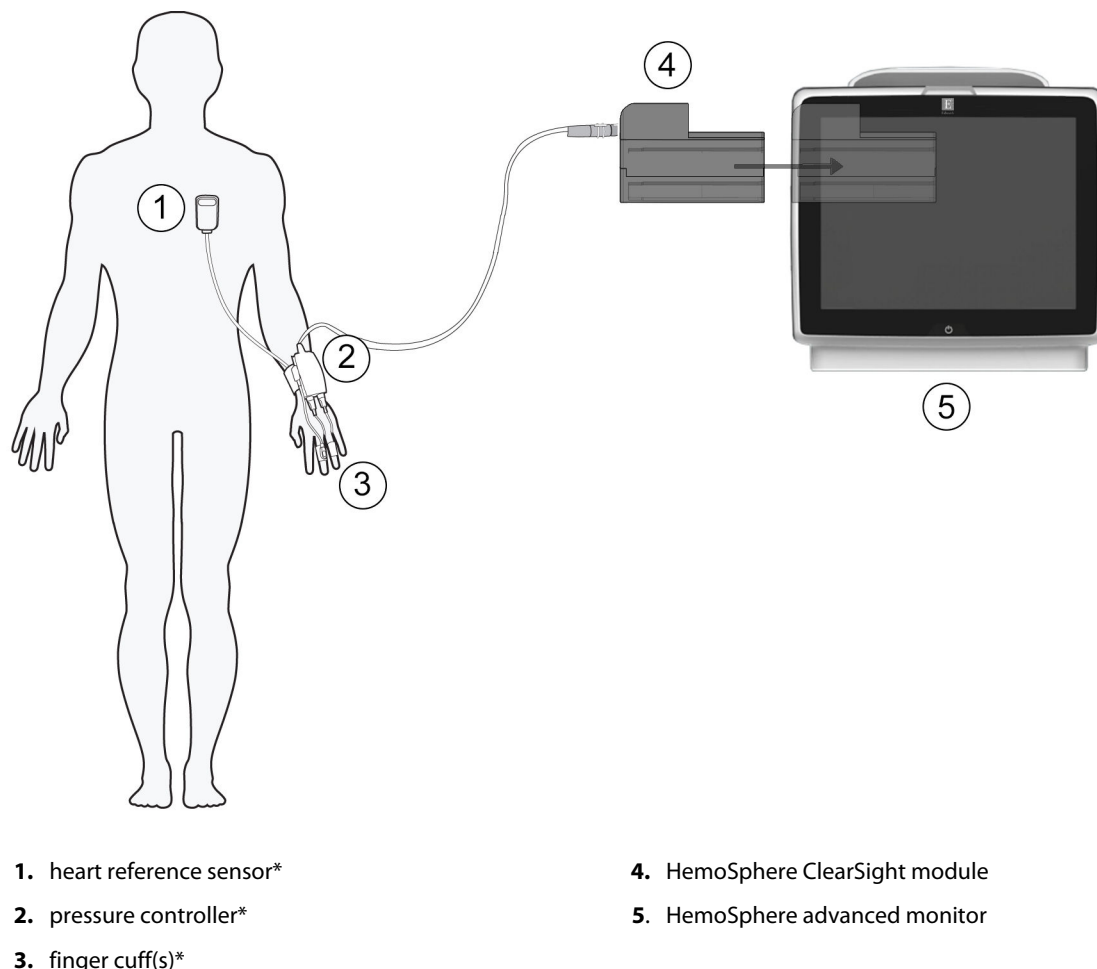

Figure 11-1: HemoSphere non-invasive system connection overview
The HemoSphere noninvasive system is composed of the HemoSphere advanced monitor with ClearSight module and connected pressure controller, heart reference sensor, and compatible Edwards finger cuff(s). See system connections in Figure 11-1 on page 205. Accurate measurement of the patient's blood pressure and key hemodynamic parameters is based on the Volume Clamp method, Physiocal method and ClearSight algorithm.
The HemoSphere ClearSight module is compatible with all approved Edwards finger cuffs. See Figure 11-1 on page 205 for an overview of the HemoSphere non-invasive system connections.
Components indicated by \* in Figure 11-1 on page 205 legend are APPLIED PARTS as defined in IEC 60601-1 that in normal use necessarily come into physical contact with the patient for the HemoSphere non-invasive system to perform its function.
3. Attach the pressure controller cable to the HemoSphere ClearSight module. (Figure 11-1 on page 205)